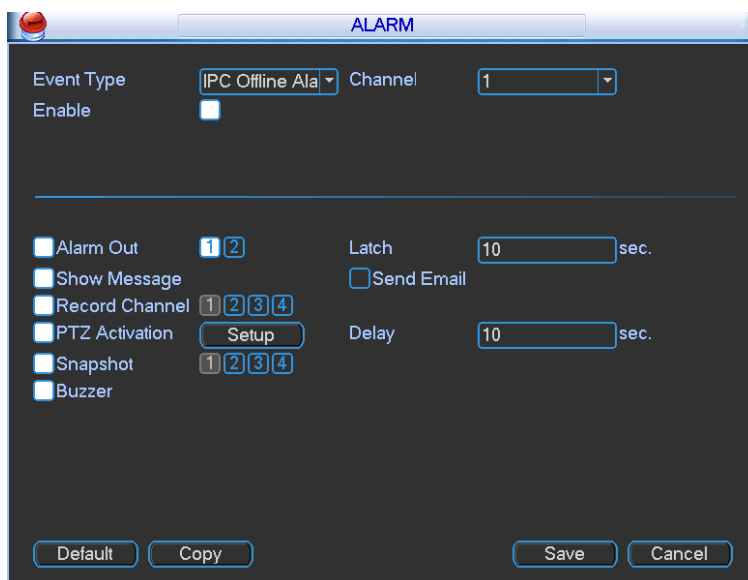

Figure 4-61
- b) In the main menu, from Setting to Alarm, you can see alarm setup interface. See Figure 4-61.